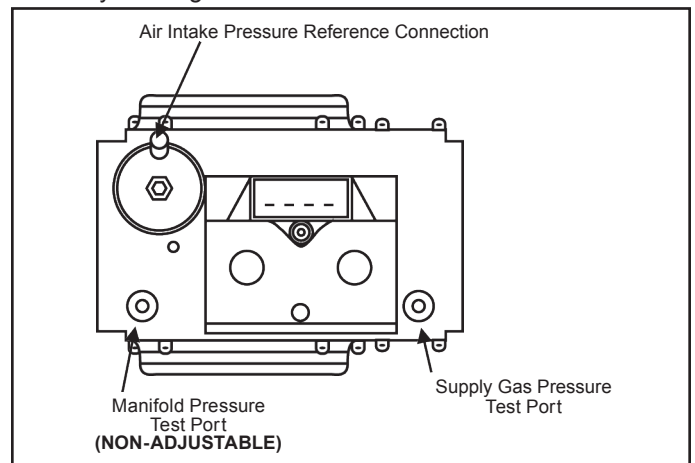

Figure 57. Gas Valve Assembly
5. Connect manometer to the supply gas pressure port on the gas valve. See *Figure 57*.
On the water heaters covered by this manual there are test ports for supply and manifold gas pressure readings on the gas valve. Using a small flat tip pocket screw driver - open the needle valve inside the supply gas pressure test port one full turn only; turn the needle valve screw counter-clockwise to open the valve. Slide the manometer sensing tube over the top of the test port. See *Figure 57*.